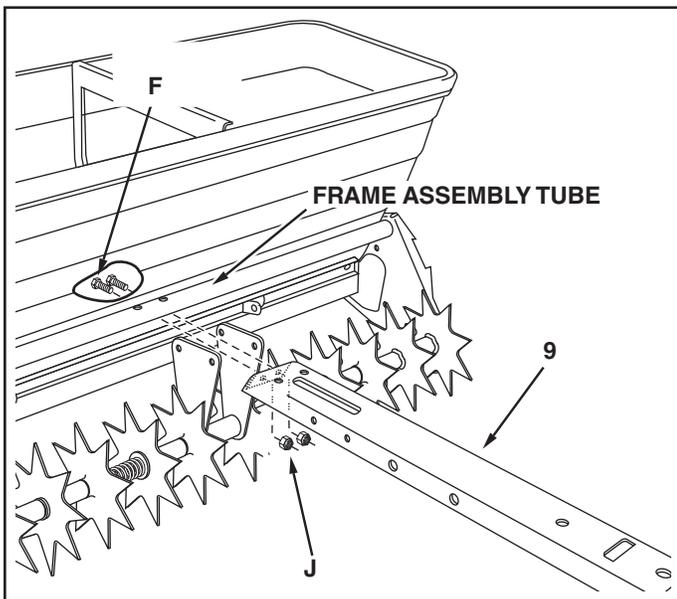

FIGURE 19
26. Assemble the end of the tongue (9) to the hopper using two 1/4" x 5/8" hex bolts (F) and 1/4" nylock nuts (J). The holes are located just below the frame assembly tube. **Do not tighten yet.** See figure 19.